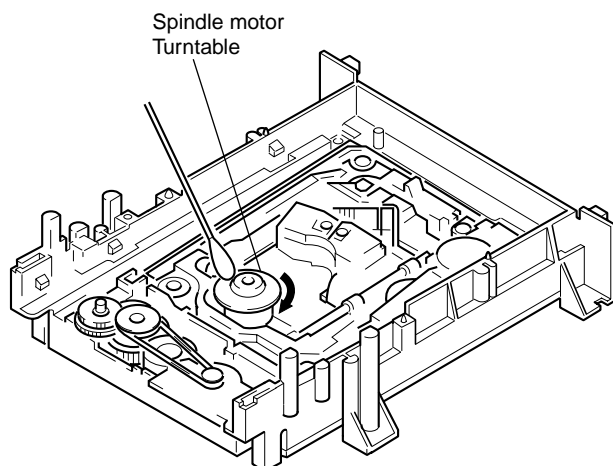

Fig. 9
- 2) Clean the spindle motor turntable if disc antiskid rubber (black) is dirty. (See Fig. 9)